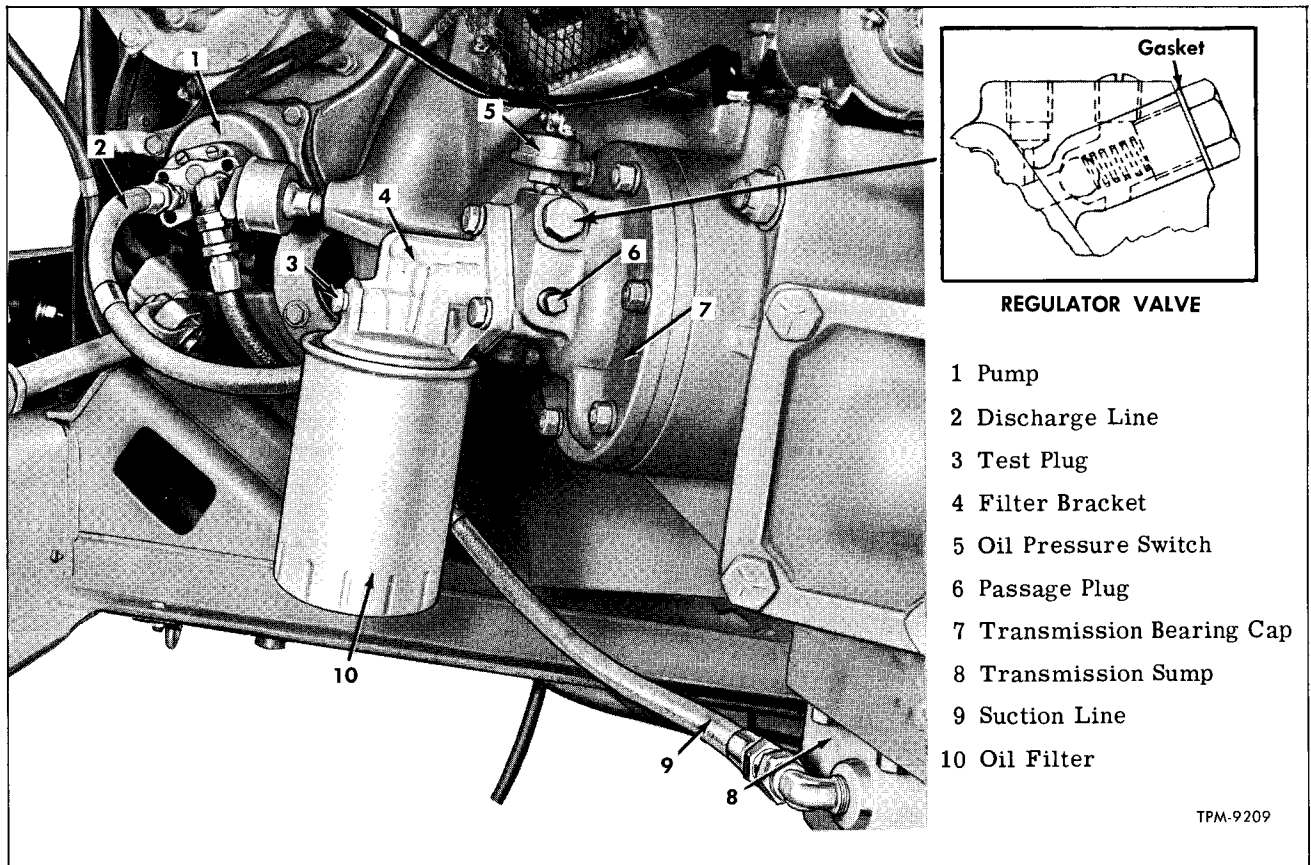

Figure 3—Transmission Oil Filter Lines and Pump
Transmission lubricant is contained in reservoir (sump) on bottom of transmission case. Lubricant is circulated to various points by a gear type pump mounted on engine and connected to transmission by flexible lines (fig. 3).
Drive gear (15) is supported at transmission case by roller bearing assembly (12). Bearing is held in place by retainer (10) which is bolted to transmission case. Seal (11) prevents leakage between retainer and clutch housing (82). Tapered roller bearings are used at outer end of drive gear. Outer bearings are adjustable, and shims (4) are used to provide proper contact between bevel pinion gear and bevel drive gear (83) keyed to shaft which is integral with drive gear (15). Oil tube (88) carries oil supplied by pump (fig. 3) to lubrication passage in drive gear. Passage is shown by dotted lines. Bearing cap assembly (1) incorporates a lubrication pressure relief valve and is machined for mounting lubricating oil filter assembly (fig. 3).
LUBRICATION SYSTEM (Fig. 3)
Lubricant which lubricates transmission is contained in oil reservoir bolted on bottom of transmission case. The pump (fig. 3), is mounted on and driven by the engine. Oil from reservoir is drawn to pump through suction line, and is discharged through line to oil filter assembly on transmission. Located in bearing cap (7, fig. 3) is a spring-loaded pressure regulator valve which maintains pressure at switch (5, fig. 3) at low engine speed. Lubricant is directed through oil passages to lubricate transmission bearings and gears.
On coaches with 6V-71 engine and wet type clutch, the drive pinion shaft is drilled lengthwise and clutch components are lubricated by oil pumped through oil passage in drive pinion. With wet clutch, a restricted fitting is used in oil tube in bearing cap (1, fig. 3) and in front (engine) end of
A switch (5, fig. 3) mounted on transmission lights a tell-tale on instrument panel to warn driver in case transmission oil pressure drops below safe operating pressure (1-1/2 to 2-1/2 psi).
Key numbers in text refer to figure 3.
To check pump pressure, remove test plug (3, fig. 3) and connect pressure gauge. Start engine and operate at 2000 rpm. Note gauge reading which should be 20 to 60 psi if oil is cold, or 10 to 20 psi if oil is warm.
To check pump capacity, disconnect line (2, fig. 3) from fitting at oil filter, then start engine and run at 400 rpm. Oil from disconnected line should fill a one-quart measure in 10 to 12 seconds if pump is in satisfactory condition.
PUMP REMOVAL (Fig. 3)